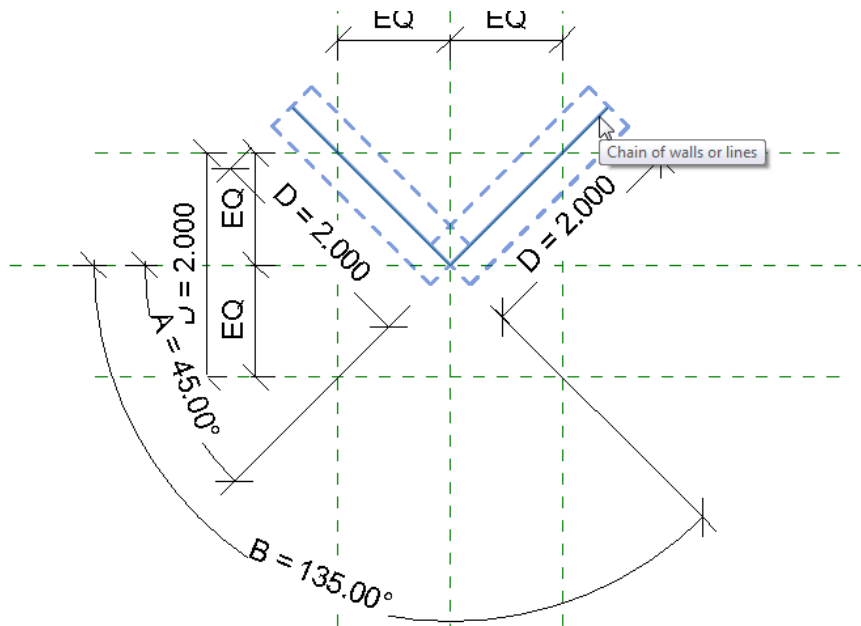

Figure 22—Create two Reference Lines constrained at the center with length and angle parameters
7. Repeat the procedure creating a second Reference Line at 135° (see Figure 22).